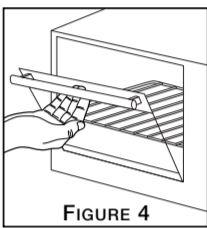

FIGURE 4
Step 2: Pull down the oven door carefully (See Figure 4).